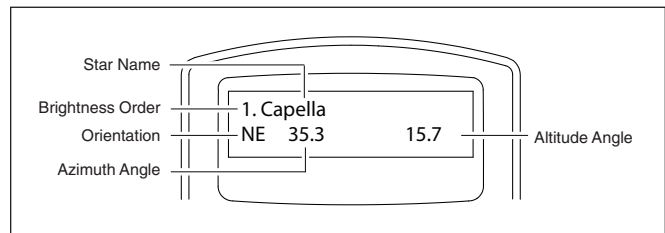

Figure 3. Alignment star information displayed on LCD.
4. Now, use the Scroll keys to scroll through the list of bright stars. There will only be a few stars, at most, on the list, and sometimes only one star will be on the list. The hand controller will display the name of the star on the first line, and the approximate position of the star (based on the time and date entered during the initial setup) on the second line (**Figure 3**). The first coordinate on the second line is an E-W coordinate (azimuth angle), and the second coordinate indicates degrees above the horizon.